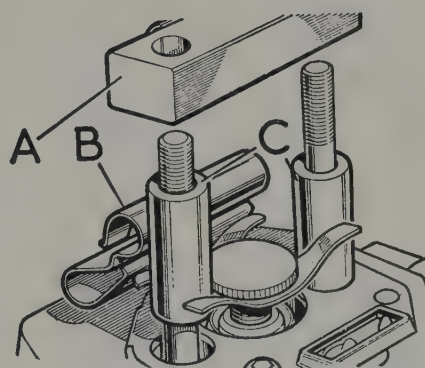

Fig. 9.16. Rear caliper beam (A) 'S' spring (B) and sleeves (C)
- 5 Push the piston upwards and prise off the main spring over the two studs. Lift off the beam (Fig. 9.16).